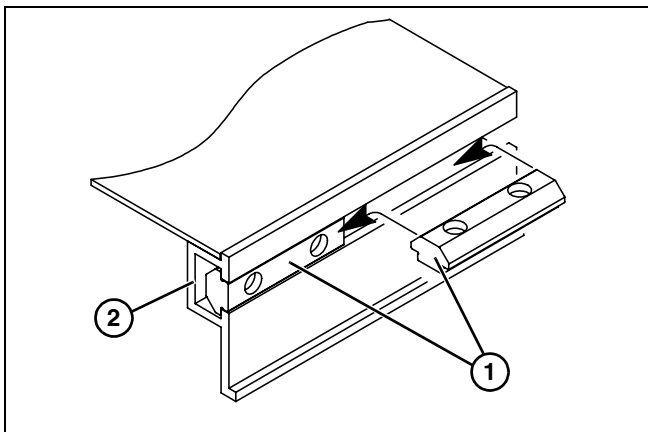

Figure 18
1. Insert each drop-in T-bar (Figure 18, item 1) into the conveyor frame T-slot (Figure 18, item 2) by rolling it into position as shown.